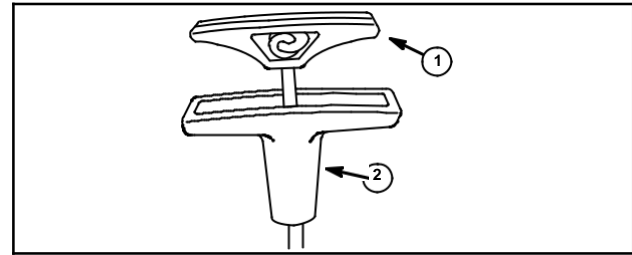

Fig. 61
8. Pull knot into insert pocket and snap insert (1) into grip (2), Fig. 61.
17. After installing alternate style starter on engine, route rope up to equipment control handle and install handle and insert, Fig. 61.